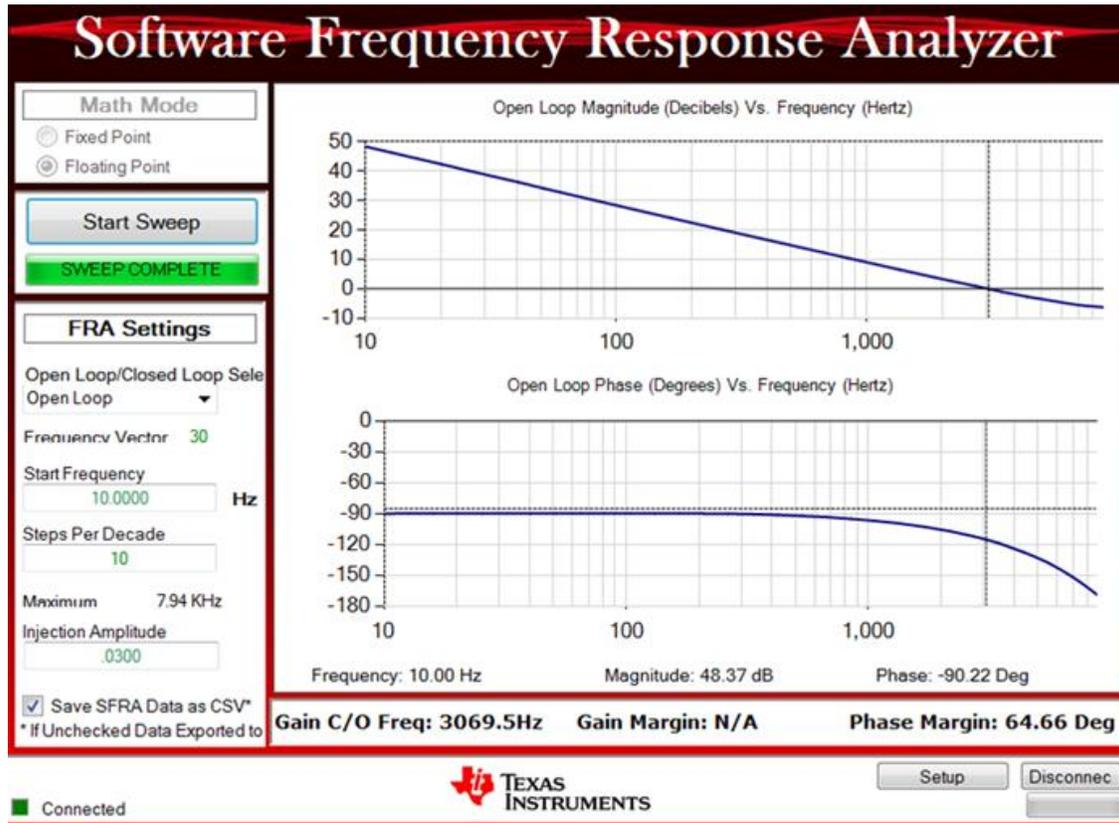
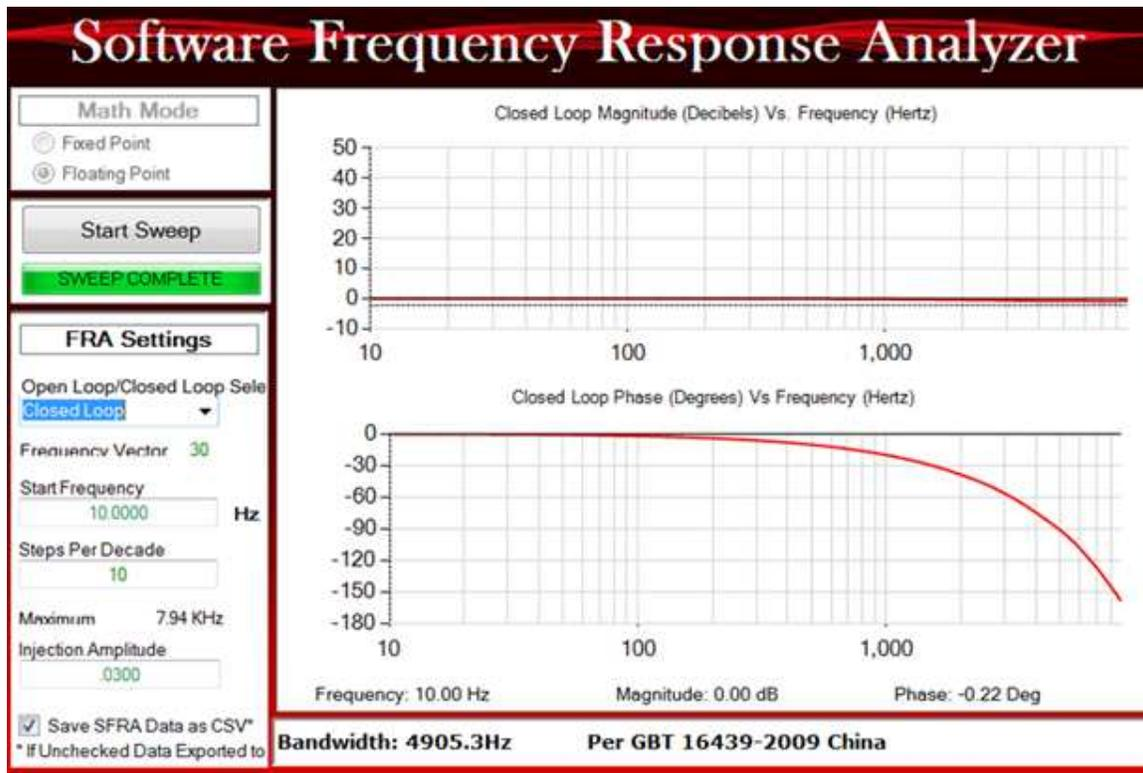

Figure 38. SFRA Open Loop Bode Plots of the Current Loop - Current Feedback With High SNR
Figure 39. SFRA Closed Loop Bode Plots of the Current Loop - Current Feedback With High SNR
The fast current loop is a high bandwidth enabler. When the designed bandwidth is high, the loop gains can also be high. This ties the loop performance to the quality of current feedback. If the SNR of current feedback signal into the digital domain is poor, then the loop can be very audibly noisy as the controller tries to minimize the error. If the noise is bothersome, you may be required to reduce the bandwidth to avoid the audible noise. Therefore, for a higher bandwidth and higher performance, the feedbacks should be of high SNR to get the frequency responses a shown in Figure 38 and Figure 39.
- The controller implemented for the open loop and closed loop plots shown in Figure 38 and Figure 39 is a dead beat controller where the output catches up to the input in just one sample cycle without any overshoots or requiring multiple cycles. From the closed loop plot, it is clear that the closed loop gain is always 0dB (unity gain) at all frequencies and, therefore, magnitude-based bandwidth determination is not practical. Hence, the phase plot is chosen as reference and the frequency at which the phase lag goes beyond 90° is taken as bandwidth per the NEMA ICS 16 (speed loop). In this test case, the PWM frequency is chosen as 10 KHz and the sampling frequency is 20 KHz and the current loop bandwidth obtained from the closed loop plot is about 5000Hz per these guidelines.